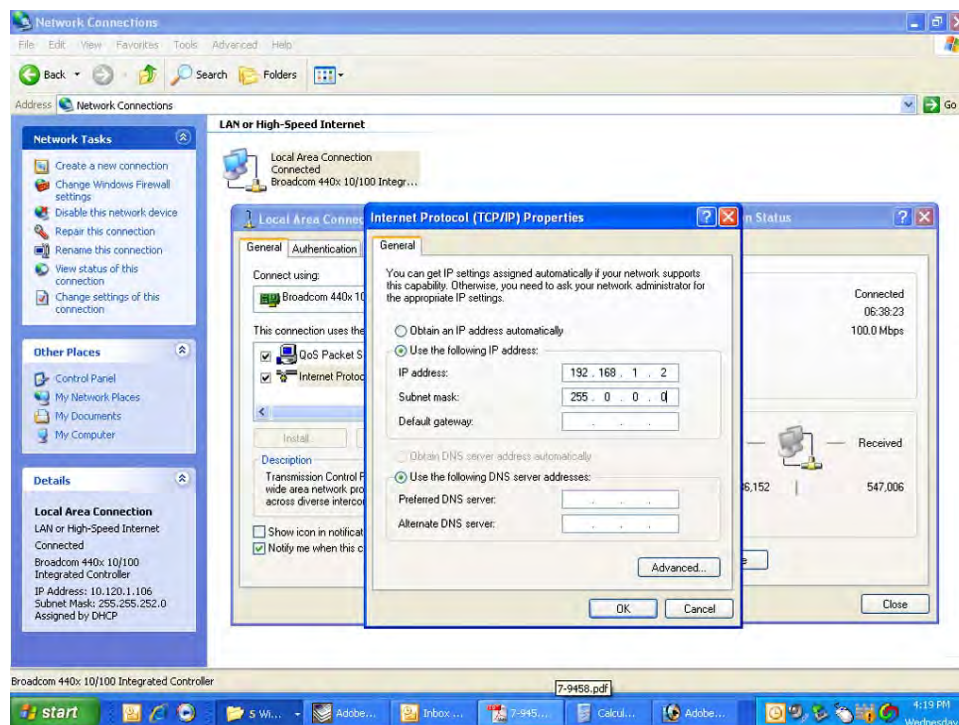

Figure B7: Enter the new IP address and Subnet mask values.
- 8) Enter the new IP address and subnet mask values as shown in **Figure B7**. To interface your computer to the SNMP Module use an IP address of "192.168.1.2" and a subnet mask of "255.255.255.0".